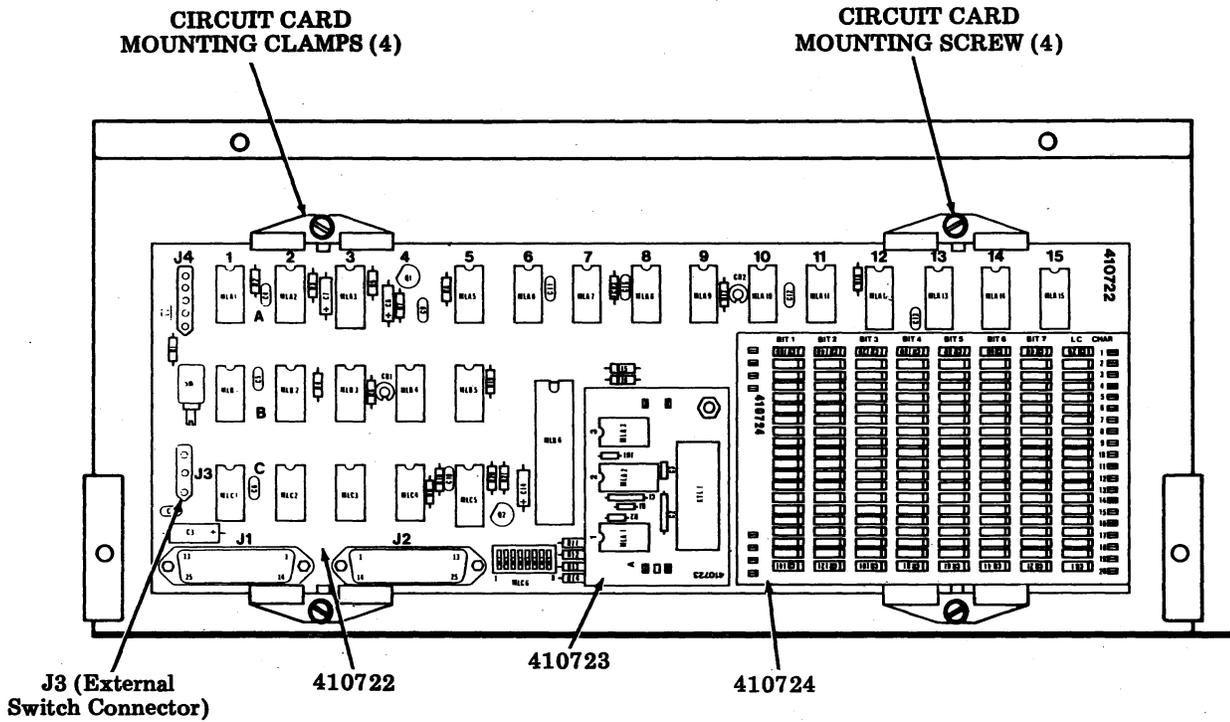
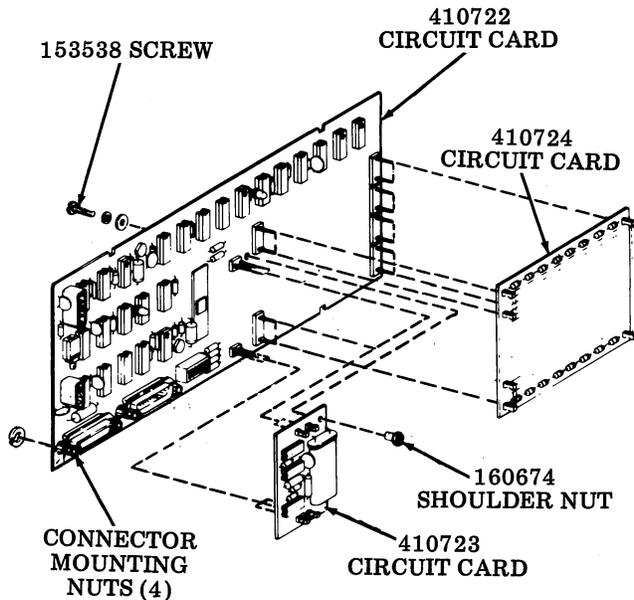

Fig. 32—Circuit Card Mounting in 40AB101/AA
Fig. 34—Circuit Card Disassembly in 40AB101/AA
5.08 Remove the four circuit card mounting screws and clamps (Fig. 32 or 33). Remove the mounting nuts that secure J1 and J2
connectors to the spacers mounted to the box (Fig. 34 or 35).
5.09 Remove the 40AB101/AA circuit card assembly (three circuit cards — Fig. 32 or 34) from the housing. Remove the 153538 screw and its associated lockwasher and flat washer from the rear of the 410722 circuit card (Fig. 34). Remove the 160674 shoulder nut from the front of the 410723 circuit card.
5.11 Grasp the answer-back card (410722 or 410732) in one hand, approximately midway along the two extended sides of the card, while removing the plug-on diode matrix card (410724) and clock card (410723 if present) with the other hand. Grasp the plug-on card(s) along the two connecting edges and rock them gently back and forth until they are loose enough to remove (Fig. 34 or 35).